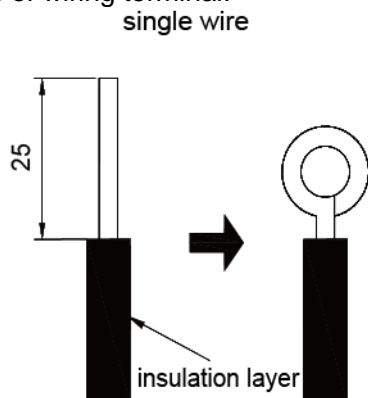

Fig. 5.1
- (1) Connect single wire (as shown in fig. 5.1).